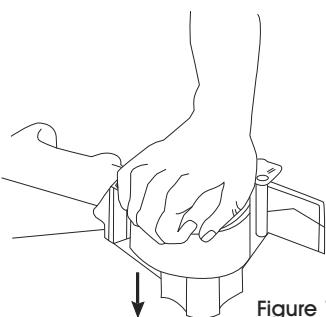

Figure 1
1. Place dispenser on flat surface. Push tape roll fully onto tape wheel. Be sure tape unwinds with sticky side down. (See Figure 1)